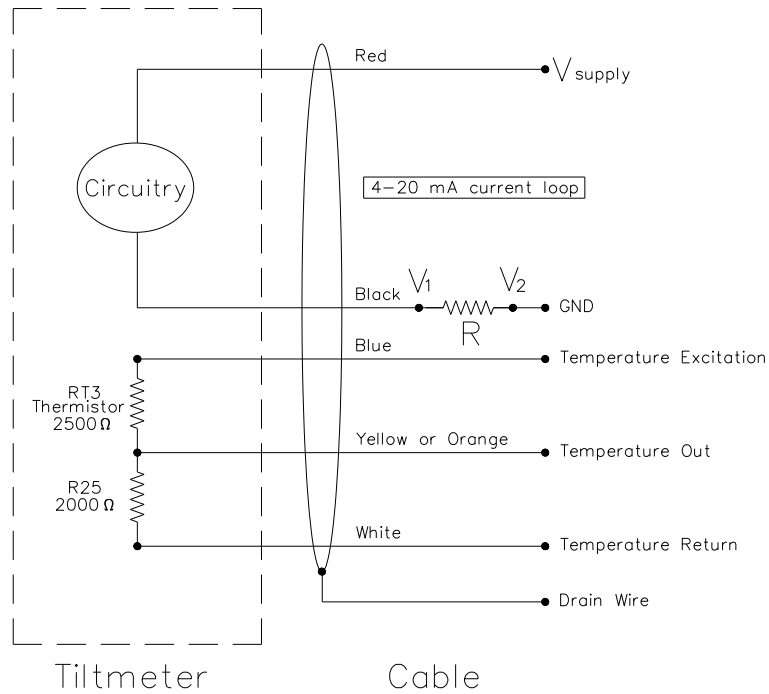
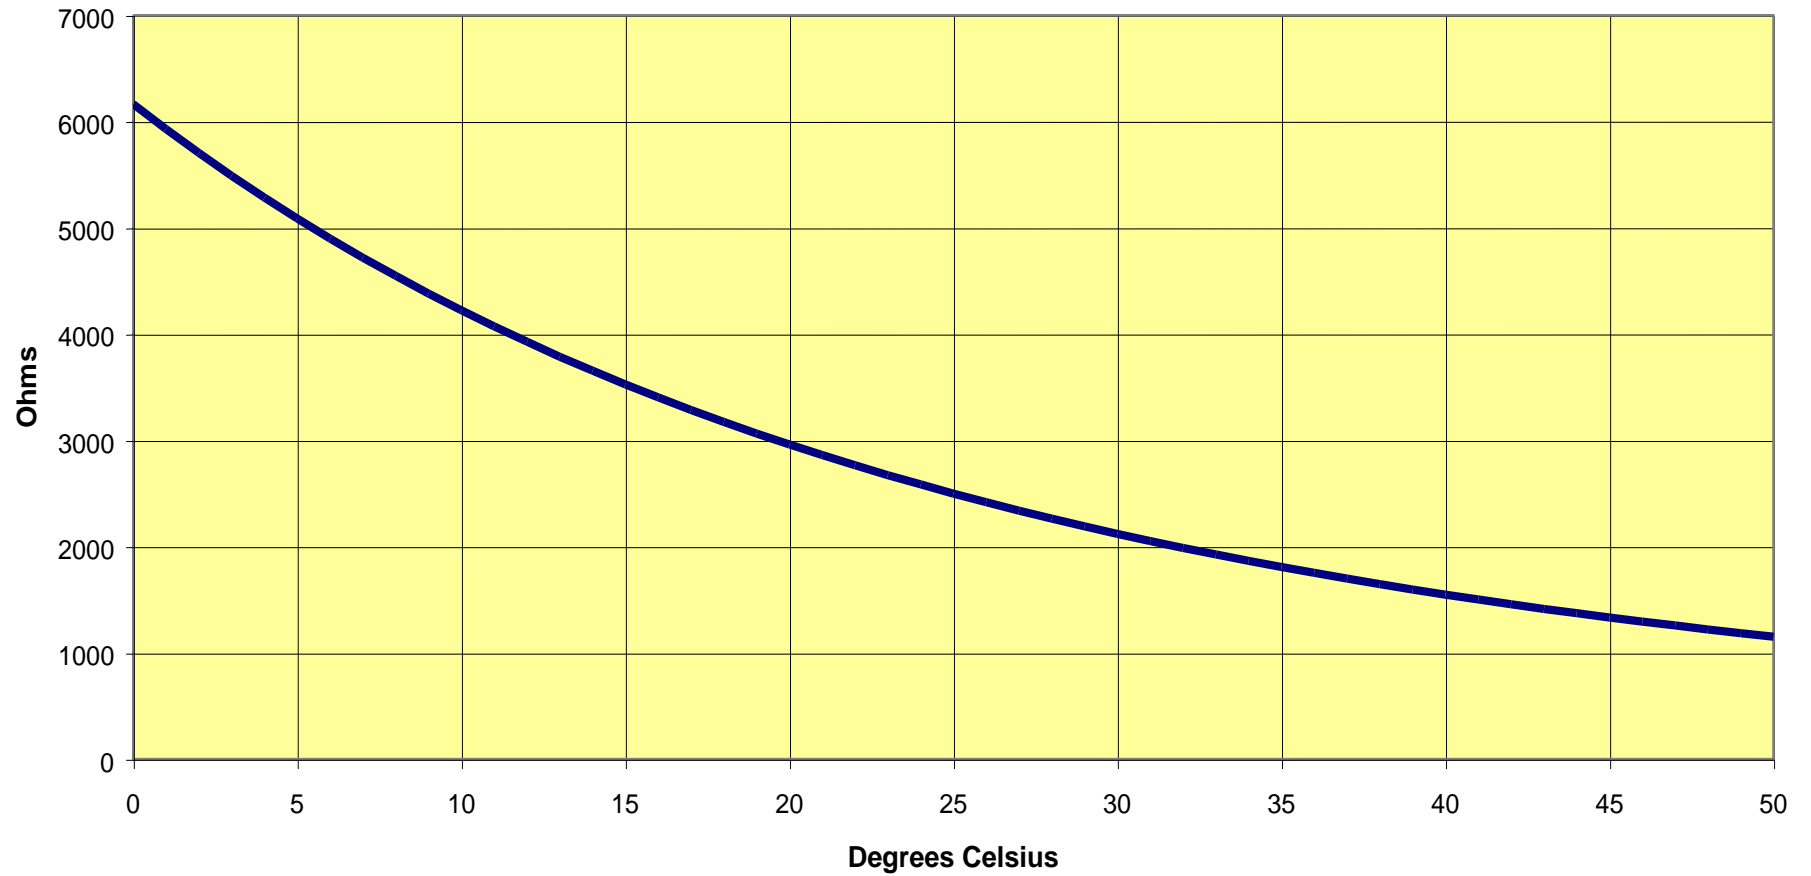

Figure 4. Wiring diagram for the Tuff Tilt 420 Uniaxial
Figure 11. Thermistor resistance vs. temperature, 0° to +50°C
Color coding of the wires in the Tuff Tilt 420 cable is shown in Table 1. J2 is the white connector on the printed circuit board inside the tiltmeter. Figure 4 shows the wiring diagram. The sense resistor, R in Figure 4, is usually not needed unless a data logger is used. The current can be measured directly using an ammeter between V_1 and V_2 of the current loop in Figure 4, with no sense resistor. The ammeter will be connected between the loop return (ground) wire of the cable and the power supply ground, located at the end of the cable farthest from the tiltmeter. When no sense resistor is present, only the cable resistance affects the minimum power supply voltage, as explained in Appendix A.
1. Connect the tiltmeter to a power supply. The power supply should be connected between V_{supply} and GND of the current loop in Figure 4.
2. Connect the tiltmeter to an ammeter. The ammeter should be connected between V_1 and V_2 of the current loop in Figure 4.
5. Verify that the temperature sensor output accurately approximates the temperature in your location. Connect an ohmmeter between Temperature Excitation and Temperature Out. (Figure 4 shows the wiring diagram.) For example, a temperature of 25°C (77°F) should give a current output of 2500 Ohms. See the graph in Figure 11 for the upper half of the temperature sensor scale. Section 7, Temperature Measurement, explains the process in detail.
Your tiltmeter contains an internal *thermistor* for measuring temperature. This thermistor has a negative temperature coefficient, which means that its resistance decreases as the temperature goes up. Its resistance at 25°C is approximately 2500 Ohms. The wiring diagram for the thermistor, RT3, is shown in Figure 4. When making a temperature measurement, the thermistor should be powered only briefly (<1 second is good) to avoid self-heating.
- 3) The second method of determining temperature is to use the thermistor RT3 and fixed resistor R25 as a voltage divider (see Figure 4). By applying a known voltage V_{in} at the end of the “Temperature Excitation” wire and measuring the voltage V_{out} on the “Temperature Out” wire, the thermistor resistance is obtained indirectly, as shown below. Both V_{in} and V_{out} are referenced to ground at the end of the “Temperature Return” wire.